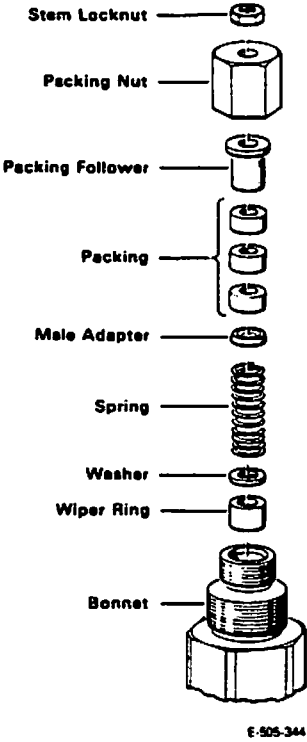

Figure 16. Optional Packing Catalog No. Code J2 Spring Loaded Graphite
- b. **Graphite Pacing** — Install packing in the order shown in Figure 16 or 17, choosing the view that applies to the packing being replaced. Be careful not to damage packing on valve stem threads.